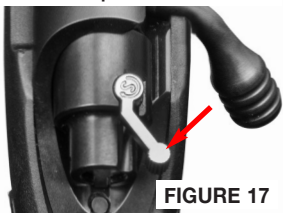

FIGURE 17
- Fully rearward - In the “BL” BOLT LOCKED SAFE position (FIGURE 17). Bolt is locked closed and the rifle is in SAFE mode.